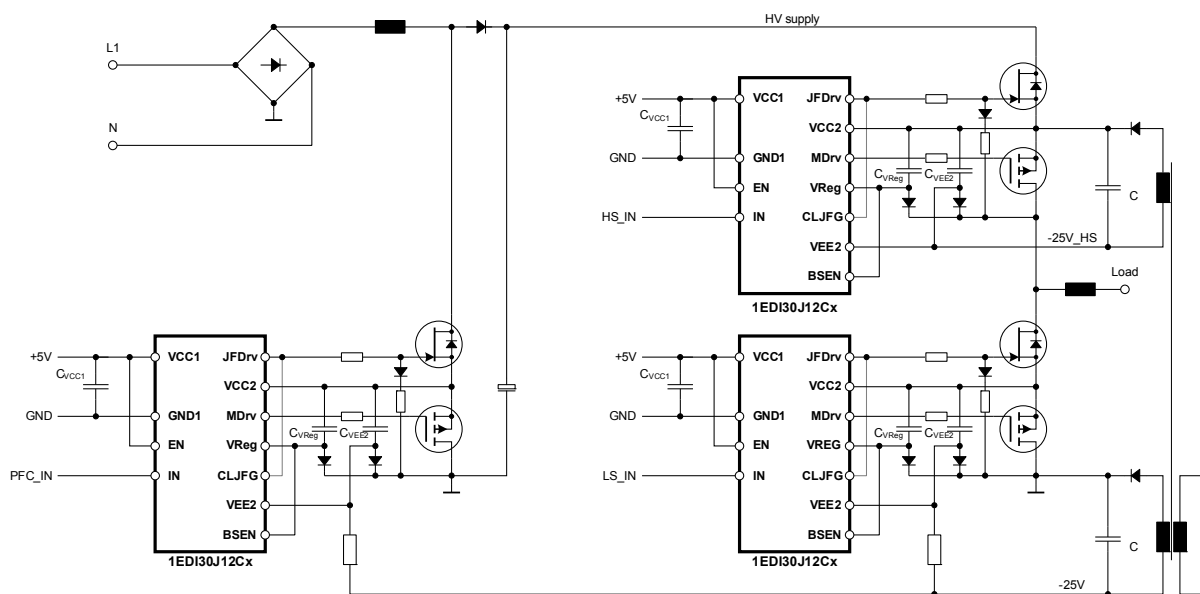

Figure 3 Application drawing for isolated supply (PFC+HB)
1. The external power supply is related to VCC2 (see Figure 3 high-side switch and Figure 10). This configuration is possible for both high and low-side switches, but each driver has to be separately supplied in order to guarantee the correct start up behavior. It is not possible to share the same supply among more than one driver.
2. The external power supply is related to the MOSFET drain potential (see Figure 3 low-side switches and Figure 12). This allows for using the same power supply to more than one driver stage as long as their MOSFET drains are connected to the same potential. Which makes this configuration most suitable to be used on drivers connected to low-side switches.